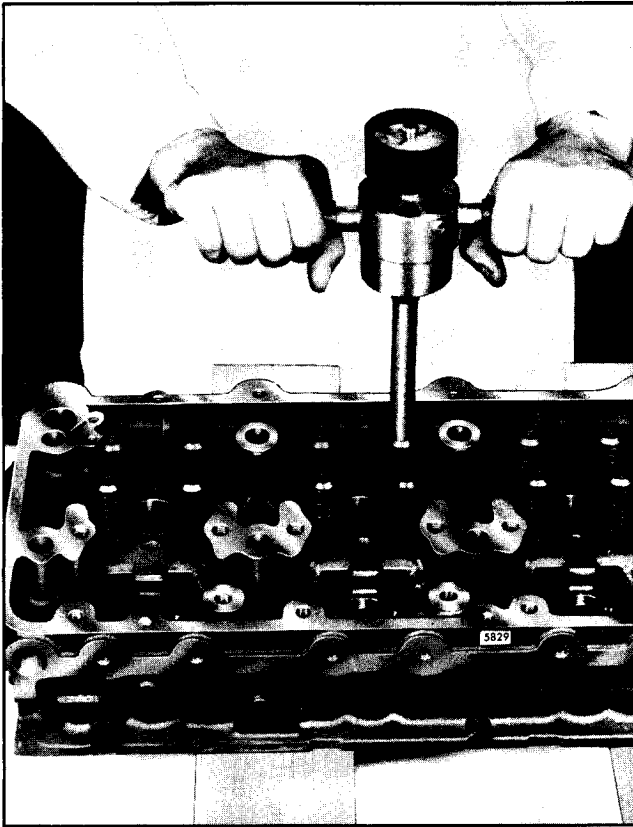

Fig. 19 - Checking Valve Opening Pressure with Gage J 25076-01
11. With the exhaust valves installed in the cylinder head, use spring checking gage J 25076-01 and note the gage reading the moment the exhaust valve starts to open (Fig. 19). The minimum pressure required to start to open the exhaust valve must not be less than 33 pounds for a two-valve cylinder head or 25 pounds for a four-valve cylinder head.